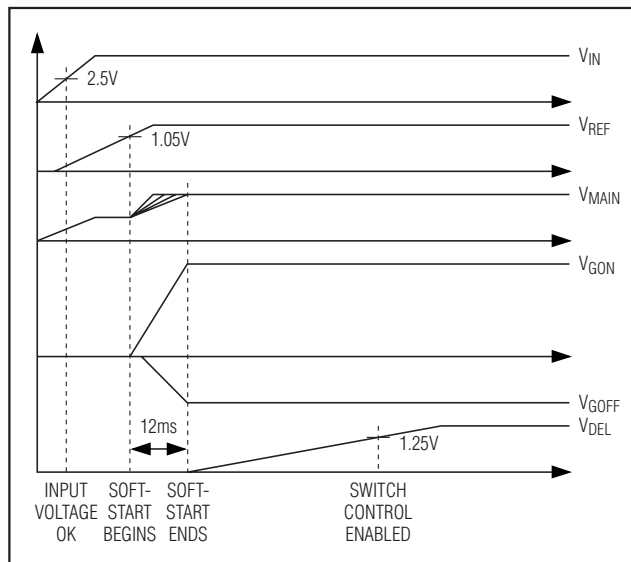

Figure 6. Power-Up Sequence
1.25V (typ), the switch-control block is enabled as shown in Figure 6. After the switch-control block is enabled, COM can be connected to SRC or DRN through the internal p-channel switches, depending upon the state of CTL. Before startup and when IN is less than V_{UVLO}, DEL is internally connected to AGND to discharge C_{DEL}. Select C_{DEL} to set the delay time using the following equation: